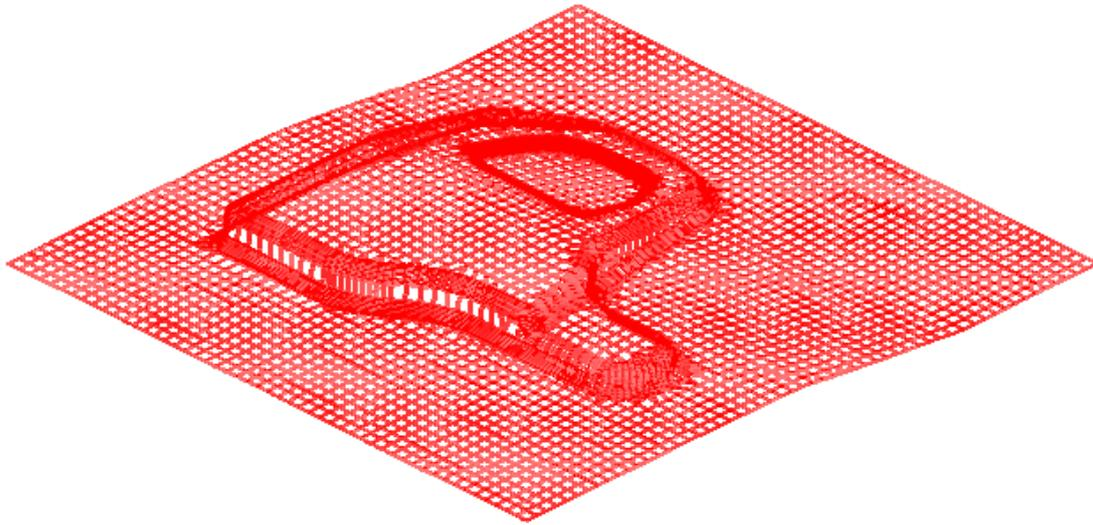

Figure 5.15 After part meshing
- The generated mesh is white. Click **Yes** when prompted, “**Accept Mesh?**” in the SURFACE MESH dialog box. Then, compare the mesh with Figure 5.15.
After clicking the **BLANKMAT** button, the **MATERIAL** dialog box illustrated in Figure 5.15 is displayed. You can create, edit or import material into the database. Moreover, you can press the **Material Library...** button to select generic material database provided by eta/DYNAFORM. Click on the **Material Library...** button to